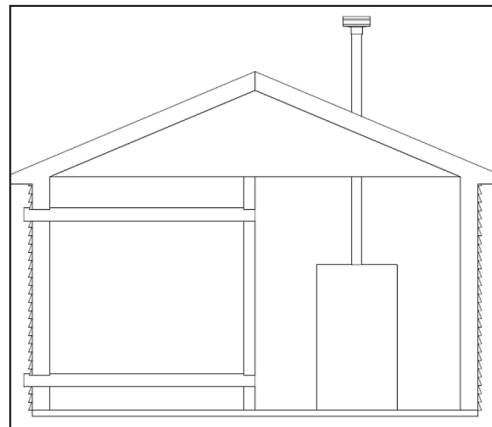

Figure 19 - Combustion Air through Ductwork
2. If combustion and ventilation air is taken from the outdoors using a duct to deliver the air to the mechanical room, each of the two openings should be sized based on a minimum free area of one square inch per 2000 BTU/hr input. See Figure 19.